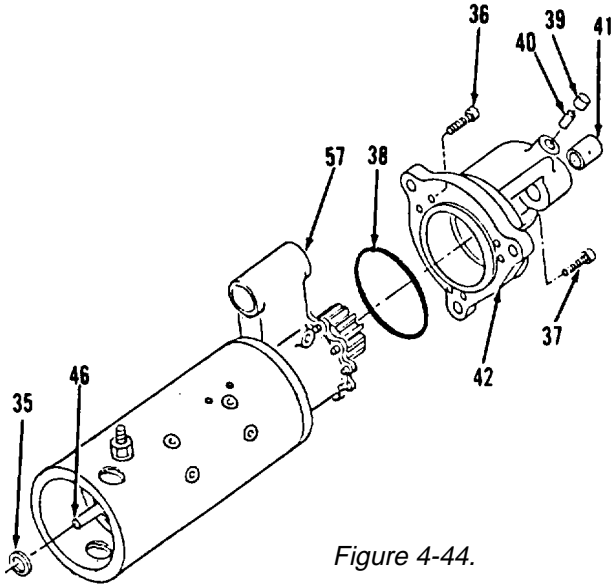

Figure 4-44.
- 20. Remove washer (35) from shaft of armature (46, Figure 4-44).
- 21. Remove screw (36) and five screws (37) from housing (42).
- 22. Separate housing (42) from housing (57).
- 23. Remove and discard preformed packing (38).
- 24. Drill hole in cup (39) and pry out of housing (42). Discard cup (39).
- 25. Remove wick (40).